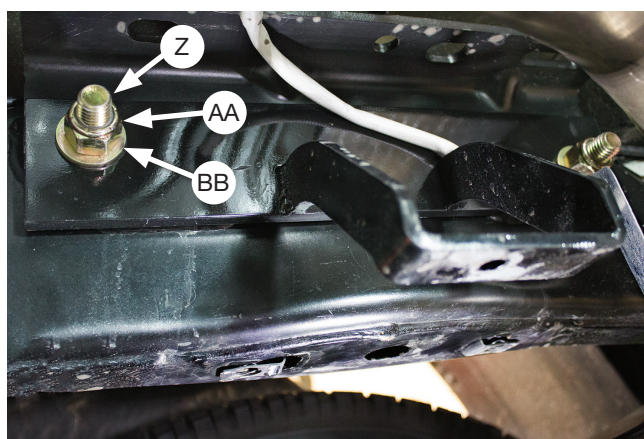

Fig. 30
6. Remove the factory fifth wheel hitch hardware (if equipped), from the holes in the side of the frame. Using the existing holes in the frame, attach the upper frame brace (F) to the frame using the factory hitch hardware removed or the 5/8" (Z, AA, BB) hardware supplied (Fig. 30). Leave loose at this time.